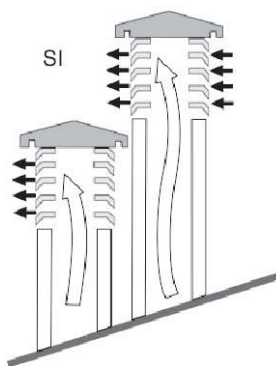

Fig.3
- Whenever using parallel output chimneys, it is advisable to raise a bracing element. (fig.3).